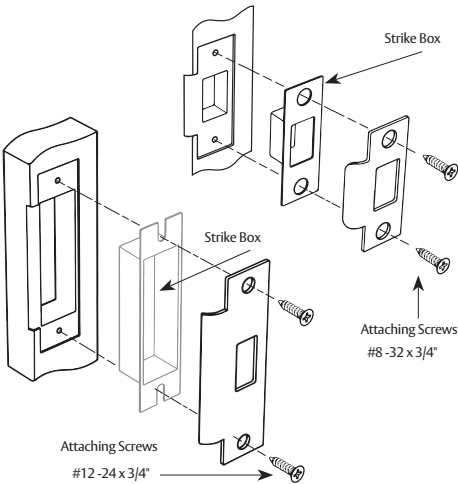

Figure 3
- 4. Install the strike. See Figure 3.